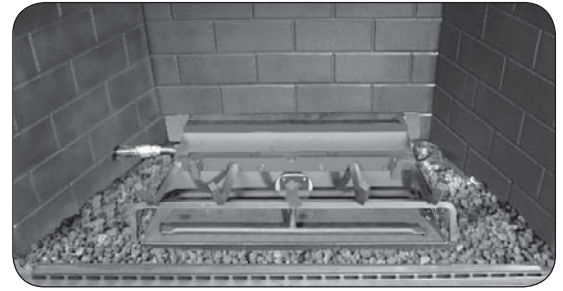

Fig. 9-1 Place lava granules
1. Spread the supplied lava granules on the floor of the fireplace, around the front and sides of the burner system (see Fig. 9-1).